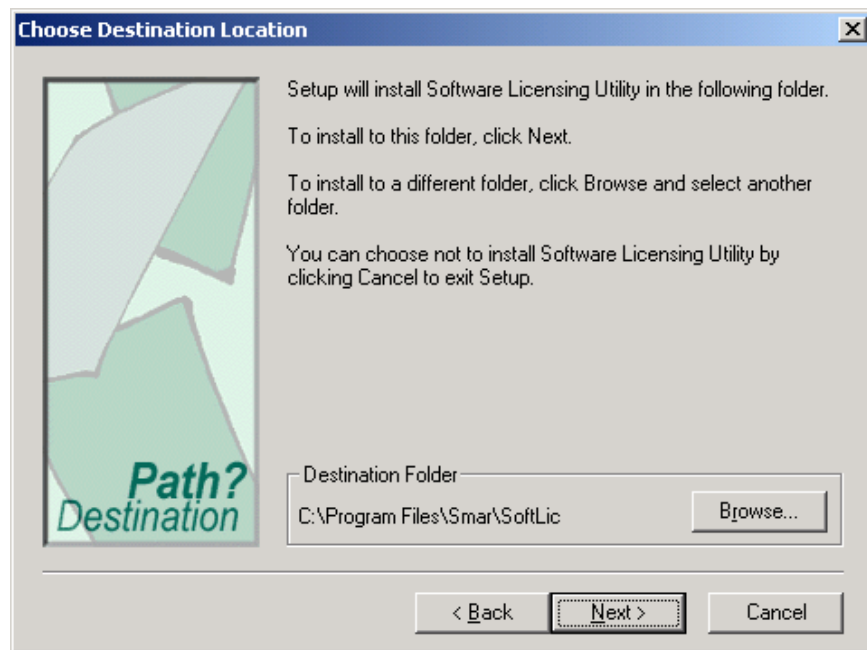

Figure 3.6. Choosing the Installation Directory
11. Choose the destination directory for the installation, as shown in **Figure 3.6**. This defaults to `\Program Files\Smar\SoftLic`. If you want to install the License Utility in a different directory, click **Browse**. Click **Next** to continue.